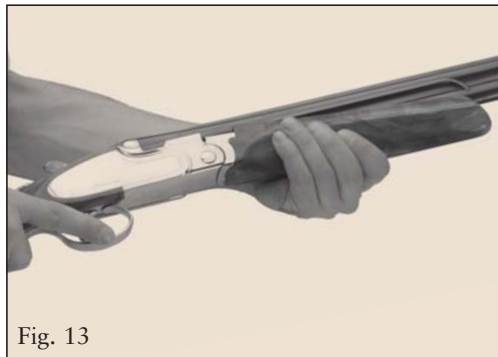

Fig. 13
- Fit the fore-end onto the barrels, first inserting the two fore-end iron levers in the slots on the side walls of the receiver (Fig. 12). Swing the fore-end upwards (Fig. 13). Place the fore-end iron (the curved steel component at the rear of the fore-end) over the ends of the ejectors against the front part of the receiver so that the fore-end slides into position under the barrels (Fig. 14).